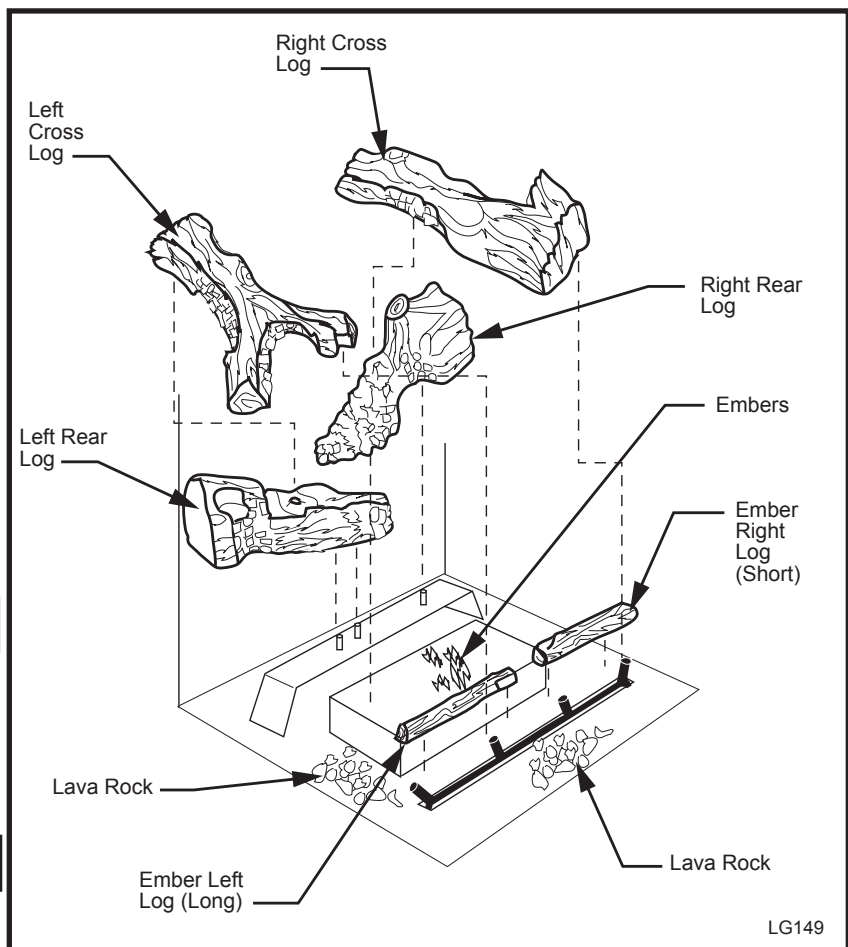

Fig. 15 NVB36 log placement.
3. Place left rear log on rear log support. Ensure that log is firmly positioned and there is no side-to-side movement. (Figs. 15 & 16)
4. Carefully place Ember Left and Right Logs between grate and burner. (Figs. 15 & 16)
6. Place the top logs onto the locator notches. Ensure the logs are secure. (Fig. 15 & 16)
Separate the ember material into small pieces, roughly 1/2" in diameter and place **on bracket** over front burner tube. Do not pack down; leave in loose, fluffy condition for most realistic ember effect. (Fig. 15 & 16)